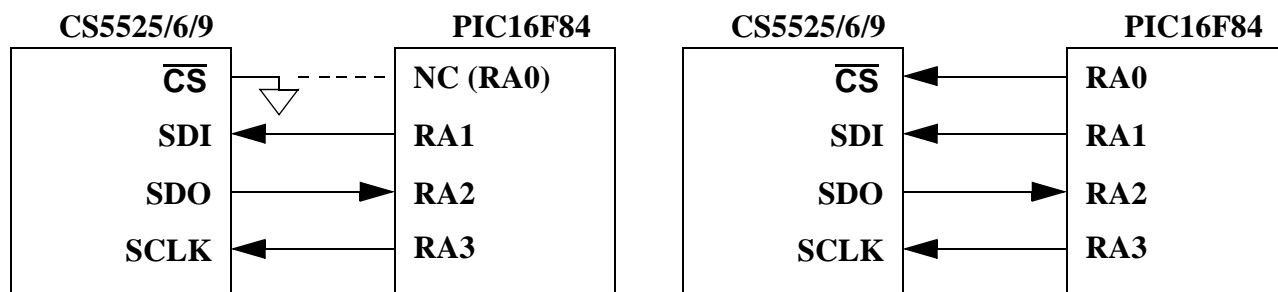

Figure 1. 3-Wire and 4-Wire Interfaces
The CS5525/6/9 interfaces to the PIC16F84 through either a three-wire or a four-wire interface. Figure 1 depicts the interface between the two devices. Though this software was written to interface to Port A (RA) on the PIC16F84 with a four-wire interface, the algorithms can be easily modified to work with the three-wire format.
Initialize is a subroutine that configures Port A (RA) on the PIC16F84 and places the CS5525/6/9 in the command-state. First, RA’s data direction is configured as depicted in Figure 1 (for more information on configuring ports refer to Microchip’s PIC16F8X Data Sheet). After configuring the port, the controller enters a delay state to allow time for the CS5525/6/9’s power-on-reset and oscillator to start-up (oscillator start-up time is typically 500 ms). The last step is to reinitialize the serial port on the ADC (reinitializing the serial port is unnecessary here, it was added for demonstration purposes only). This is implemented by sending the converter sixteen bytes of logic 1’s followed by one final byte, with its LSB logic 0. Once sent, the sequence places the serial port of the ADC into the command-state, where it awaits a valid command.